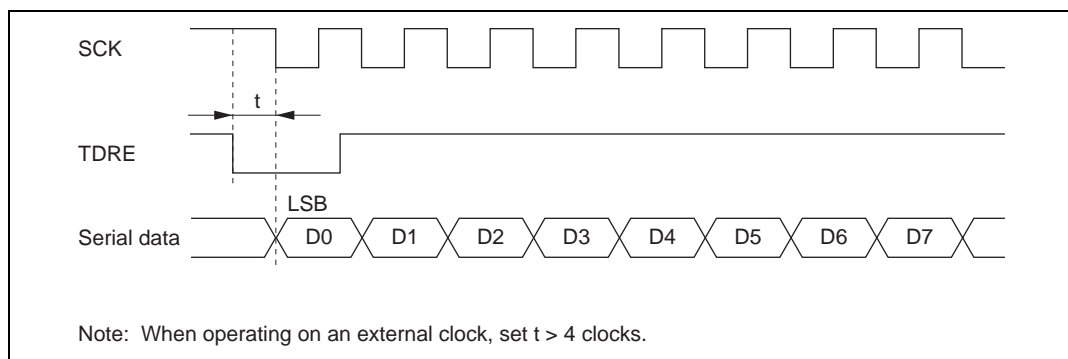

Figure 14.22 Example of Synchronous Transmission Using DTC
- When an external clock source is used as the serial clock, the transmit clock should not be input until at least 5 ϕ clock cycles after TDR is updated by the DMAC or DTC. Misoperation may occur if the transmit clock is input within 4 ϕ clocks after TDR is updated. (Figure 14.22)